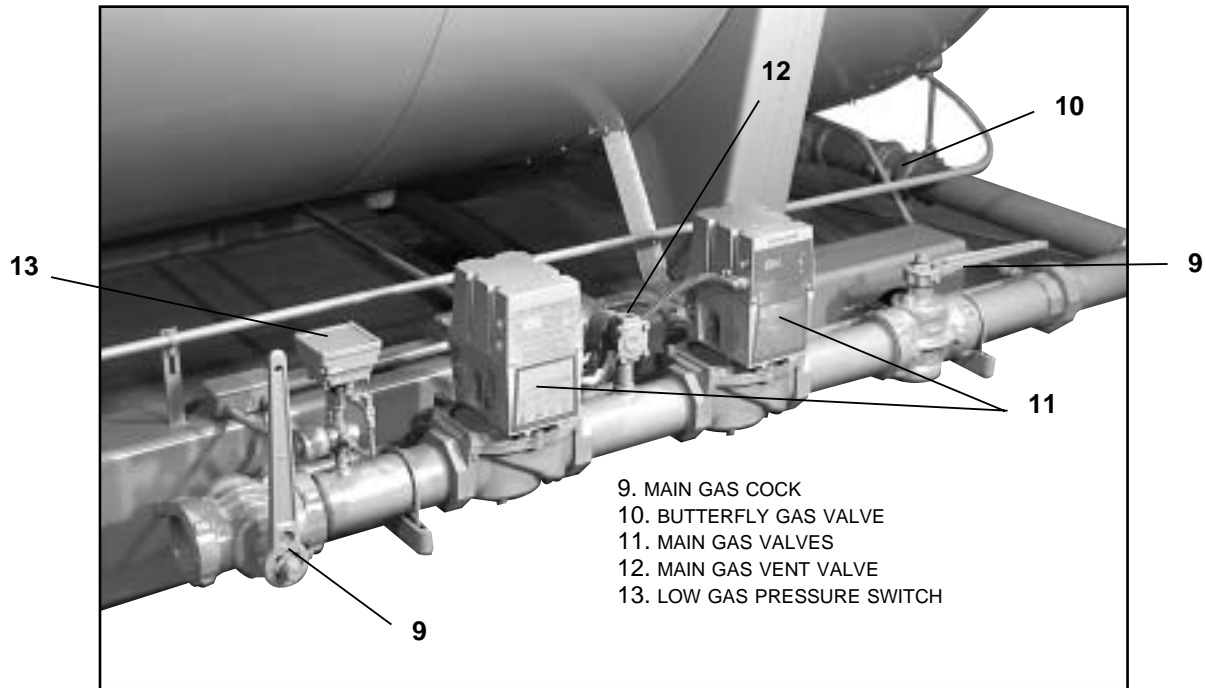

Figure: 2-14 Gas Train
9. Main Gas Cock (Figure 2-14, 15): For manually opening and closing the main fuel gas supply downstream of the main gas line pressure regulator. A second shutoff cock, downstream of the main gas valve(s), is installed to provide a means of shutting off the gas line whenever a test is made for leakage across the main gas valve.
10. Butterfly Gas Valve (Figure 2-14, 15): The pivoted disc in the valve is actuated by connecting linkage from the gas modulating cam to regulate the rate of gas flow to the burner.
11. Main Gas Valves (Figure 2-14, 15): Electrically actuated shutoff valves that open simultaneously to admit gas to the burner. The downstream valve is equipped with a "proof of closure" switch that is connected into the pre-ignition interlock circuit.
12. Main Gas Vent Valve (Figure 2-14, 15): A normally open solenoid valve installed between the two main gas valves to vent gas to the atmosphere should any be present in the main gas line when the gas valves are deenergized. The vent valve closes when the gas valves are energized.
13. Low Gas Pressure Switch (Figure 2-14, 15): A pressure-actuated switch that is closed whenever main gas line pressure is above a preselected pressure. Should the pressure drop below the setting, the switch contacts open a circuit causing the main gas valve(s) to close, or prevent the burner from starting. The switch is usually equipped with a device that must be manually reset after being tripped.